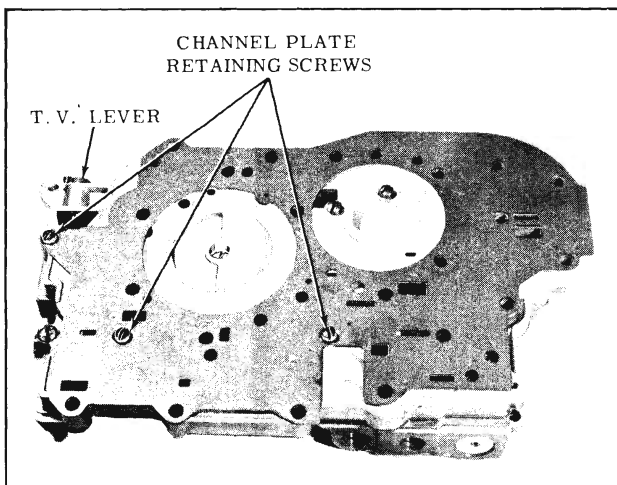

Fig. 3-283 Control Valve Assembly
3. Remove 3 spacer plate attaching screws and the channel plate to case spacer. (Fig. 3-283)